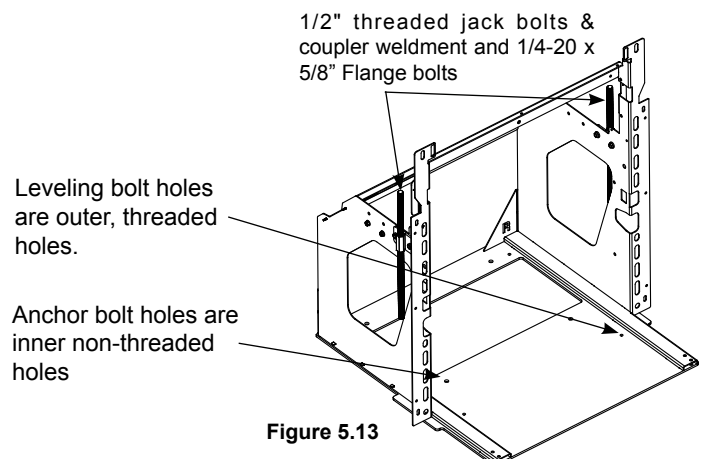

Figure 5.13
With the surround attached and the power cord installed, install the coupler nut weldments to the frame in the hole location that suits your needs with the (4) 1/4-20 x 5/8 flange screws and nuts and 1/2" jack bolts. Install the (4) 5/16"-18 leveling bolts into the threaded holes in the bottom pan of the mounting frame, install the mounting frame into the opening and adjust these bolts to insure the frame is level. (**NOTE:** Use of all 4 leveling bolts may not be necessary.) Tighten the 1/2" jack bolts against the lintel. See Figure 5.13.